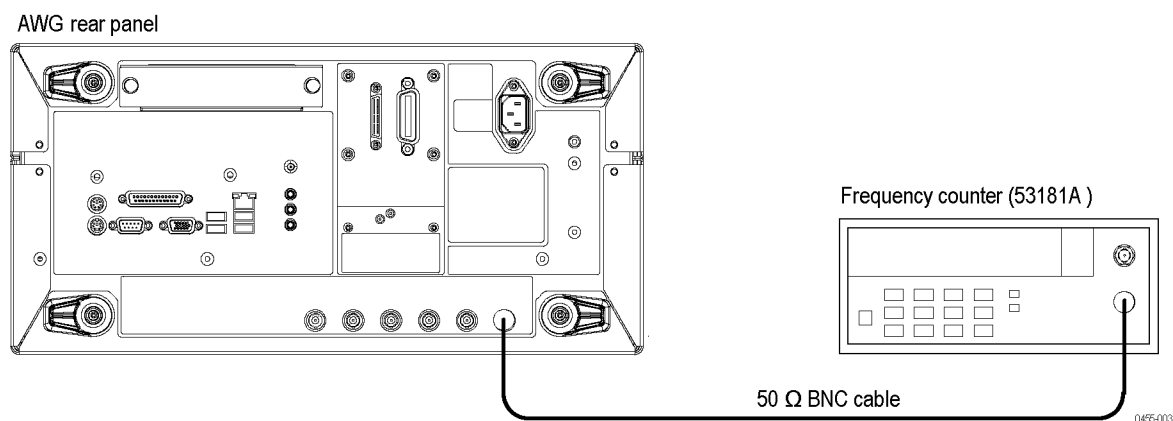

Figure 4: 10 MHz Reference clock calibration test hookup
- a. Use the 50 Ω BNC cable to connect the 10 MHz Reference Output connector (on the AWG instrument rear panel) to the channel 1 connector on the frequency counter. (See Figure 4.)